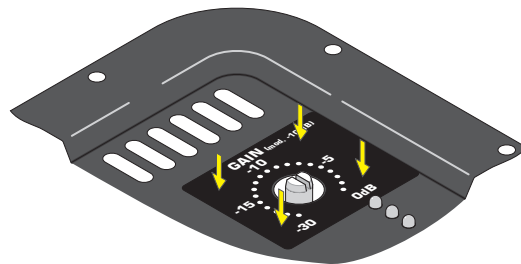

Figure 5. Press the label onto the panel. Allow 72 hours for the adhesive to reach full strength.
8. When the label is in the proper position, apply pressure to it to make it adhere to the panel (Figure 5). The adhesive may take up to 72 hours to reach full strength, so be careful to not disturb the label.